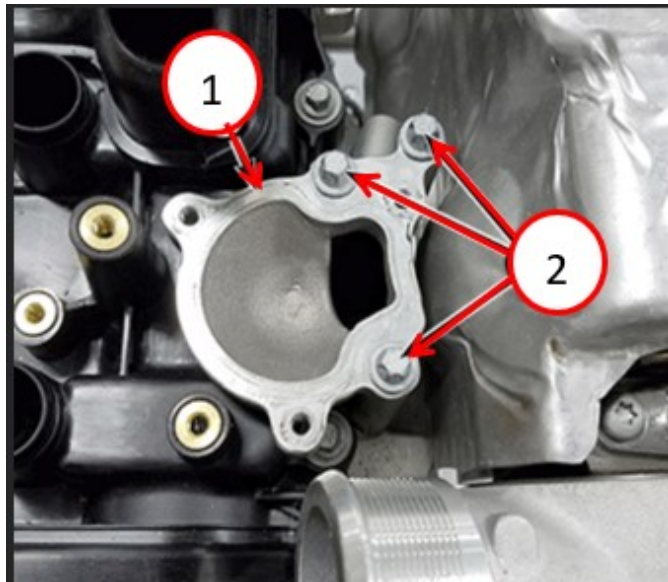

Fig. 1
4. Tighten the thermostat manifold fasteners to 11 N·m. (97 in. lbs.) Fig. 1.